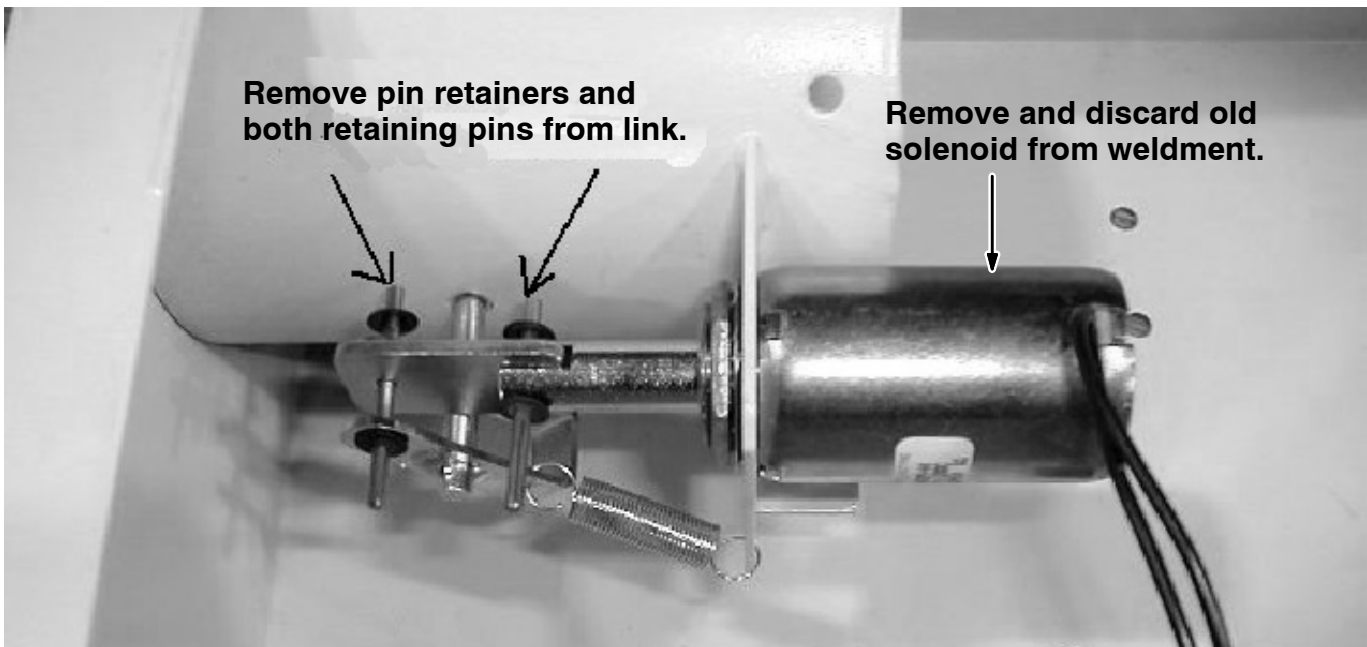

FIG. 1 - DAMPER SOLENOID REMOVAL, 6100
(Refer to FIG. 1 thru 4)
(Refer to FIG. 1 and 2)
4. Locate the damper solenoid mounted on the side of the damper. Remove and discard the pin retainers, both retaining pins and the connecting link. (Refer to FIG. 1)
(Refer to FIG. 1)